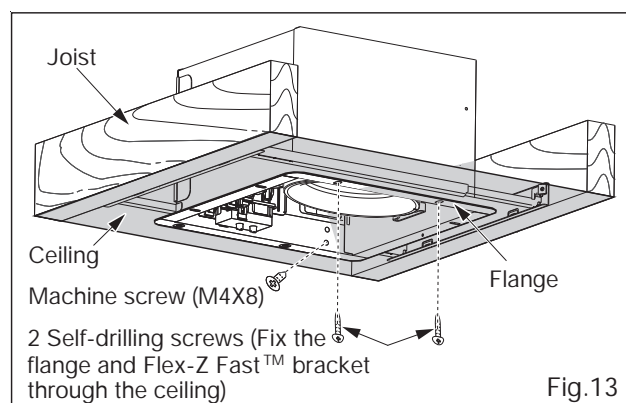

Fig.13
4. Secure the fan body to Flex-Z Fast™ bracket by using 2 self-drilling screws, plug connector to receptacle and secure the fan body to adaptor by using machine screw (M4X8). (Fig.13)